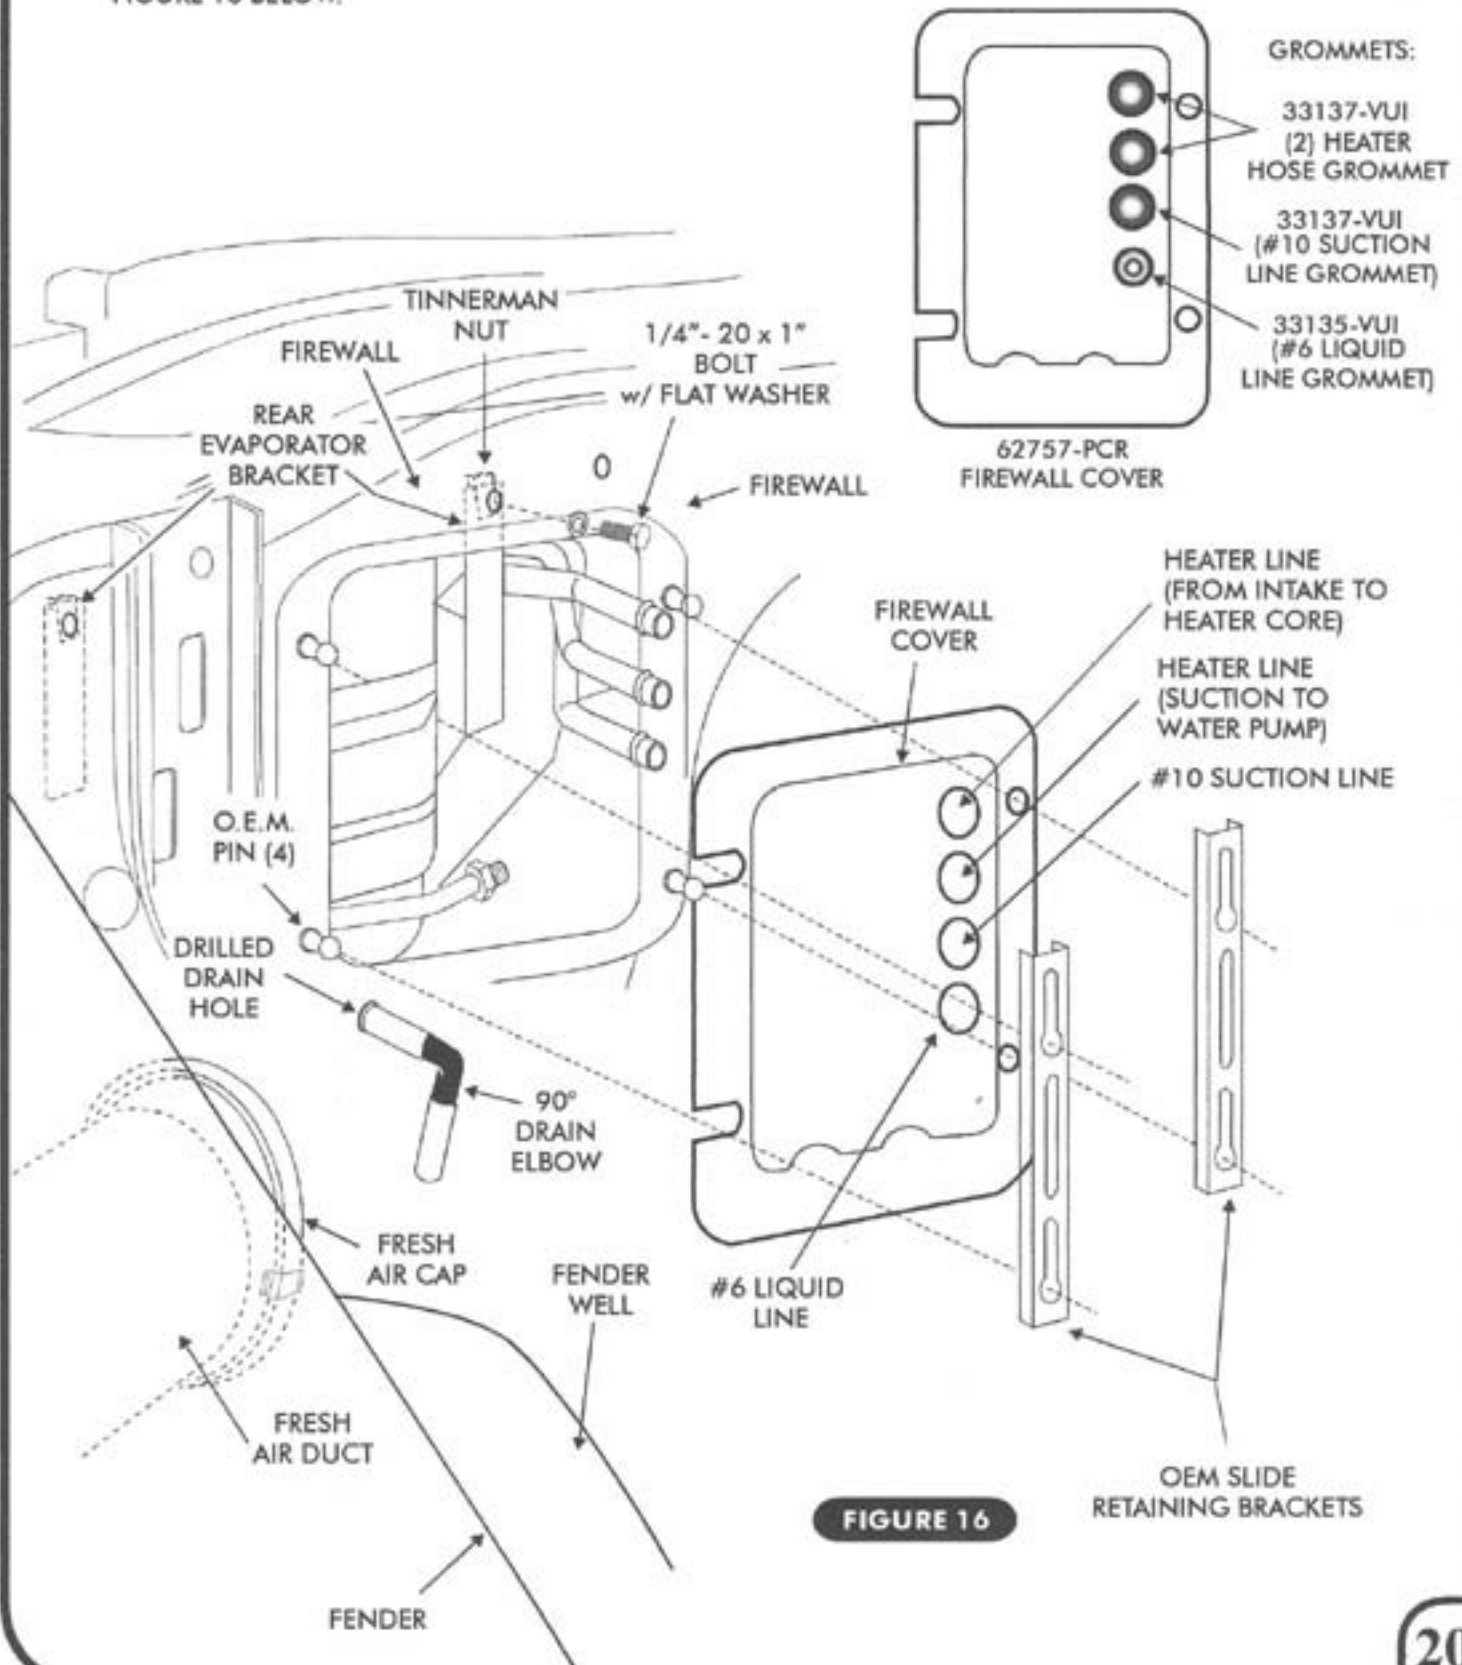

FIGURE 16
- LIFT EVAPORATOR UNIT UP & UNDER THE DASHBOARD (SEE FIGURES 8-8a BELOW & FIGURE 8b, PAGE 14). SECURE LOOSELY TO THE FIREWALL FROM THE ENGINE COMPARTMENT SIDE WITH (2) 1/4-20 x 1" BOLTS AND WASHERS. SEE FIGURE 9, PAGE 14 & FIGURE 16, PAGE 20.
- DRILL 5/8" HOLE IN FIREWALL FOR DRAIN HOSE, USE FIREWALL HOLE TEMPLATE ON PAGE 25. SEE FIGURE 16, PAGE 20.
- CONNECT DRAIN HOSE TO BOTTOM OF EVAPORATOR UNIT AND ROUTE TO FIREWALL (SEE FIGURE 16, PAGE 20).
- SECURE THE FIREWALL COVER USING TWO O.E.M RETAINING BRACKETS. SEE FIGURE 16, PAGE 20.
□ INSTALL FRESH AIR CAP TO FRESH AIR DUCT UNDER PASSENGER SIDE FENDER AS SHOWN IN FIGURE 16 BELOW.